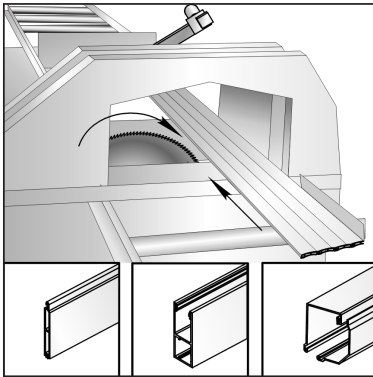

Fig. 01
- cutting lamels of the roller shutter curtain followed by treatment of the cutting areas to remove spills (Fig. 01, 02);
- cutting guide rails followed by treatment of the cutting areas to remove spills (Fig. 01, 02);
- cutting the shutter box; if necessary, making a window to lead out the controls (Fig. 01, 02, 08);